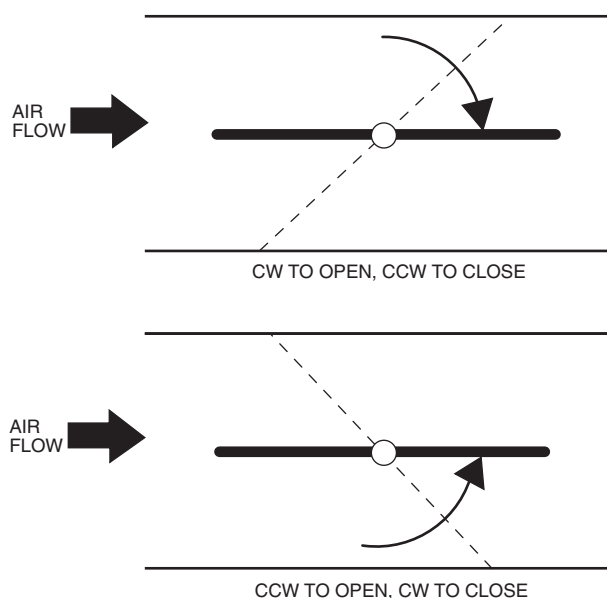

Fig. 4 — Damper Configuration
3. Visually inspect the damper and determine the direction in which the damper shaft moves to open the damper — clockwise (CW) or counterclockwise (CCW). Refer to Fig. 4.